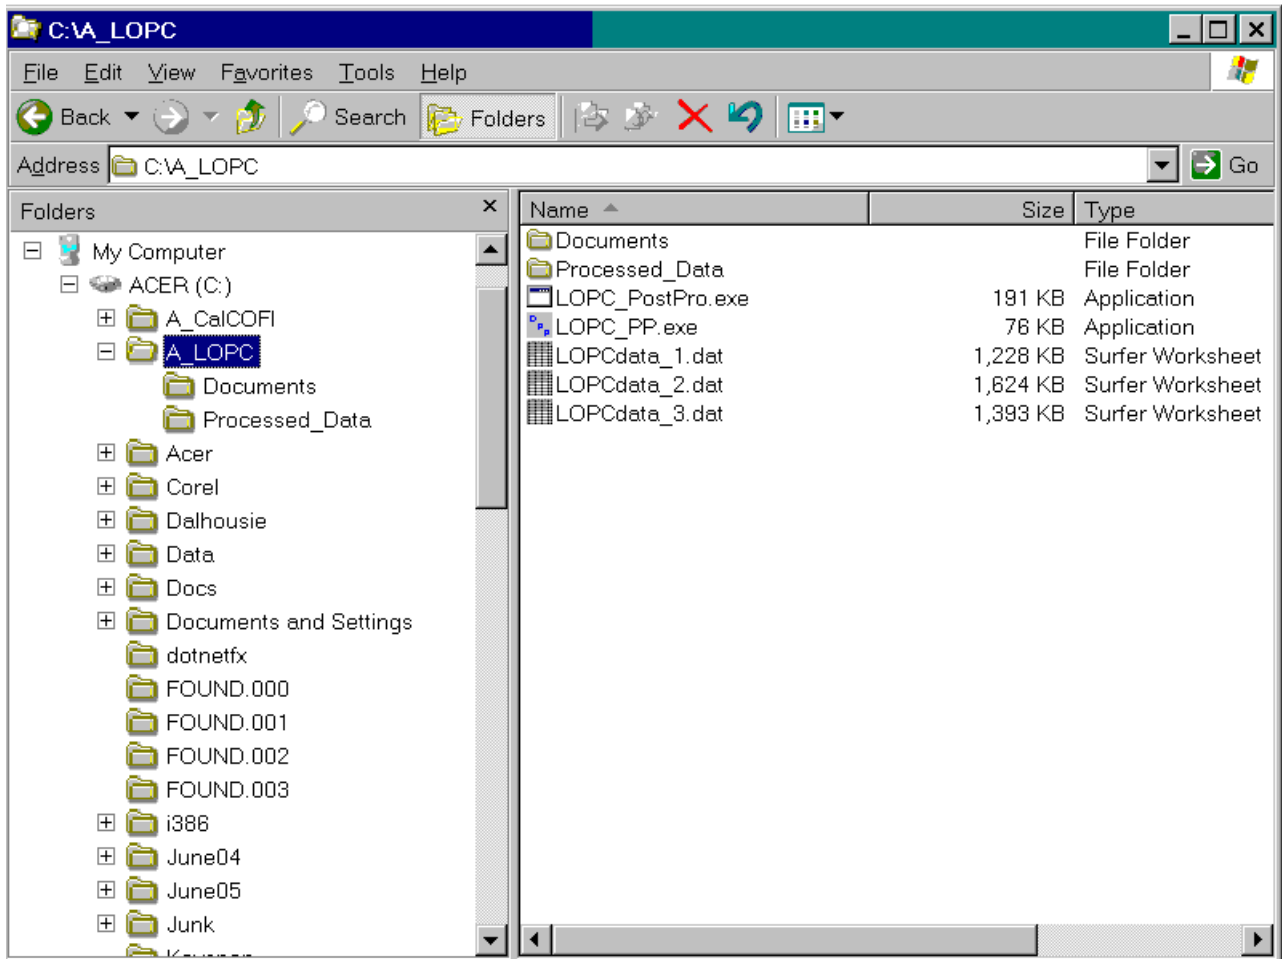

Figure 1
Both program files LOPC_PP and LOPC_PostPro are emailed or downloaded without extensions since most servers will block '.exe' files. To render these program files operable - the user must add '.exe' extensions to each of these files as shown in Figure 1. The executable LOPC_PostPro.exe processes data while the executable program LOPC_PP.exe passes input data parameters to the former. Whenever LOPC_PP.exe is executed – it searches for LOPC_PostPro.exe in the same folder -therefore both program files must reside in the same folder as seen in Figure 1 below.
LOPC data files (*.dat) can be stored in any directory/folder that will be specified by the user. In this case (Fig.1), data files 'LOPCdata_1.dat, LOPCdata_2.dat & LOPCdata_3.dat' have been stored in the directory 'C:\A_LOPC\'.
1) Source File: represent the path directory where the LOPC data files (*.dat) will be found, ie., in this case, LOPCdata_1.dat.....LOPCdata_3.dat in directory 'C:\A_LOPC\' (Fig.1). The program LOPC_PP.exe is capable of processing a single data file or batch-file processing, that is, processing any number of files numbered sequentially. Files have a 'root name' to which file numbers are added. For example in the source file path below (Figure 3), the root file is 'LOPCdata_' with an extension '.dat' and is displayed as